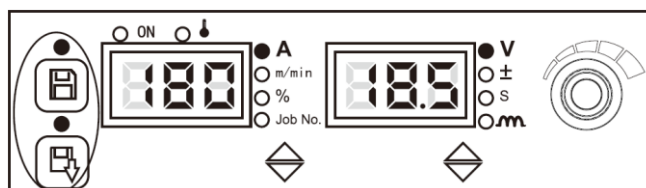

Figure 3-27 Screen for parameter range lock
5. On the screen for parameter range lock, the indicators for Store and Invoke will always be flashing, as shown in Figure 3-27, and the current and voltage can only be adjusted within the locked ranges.